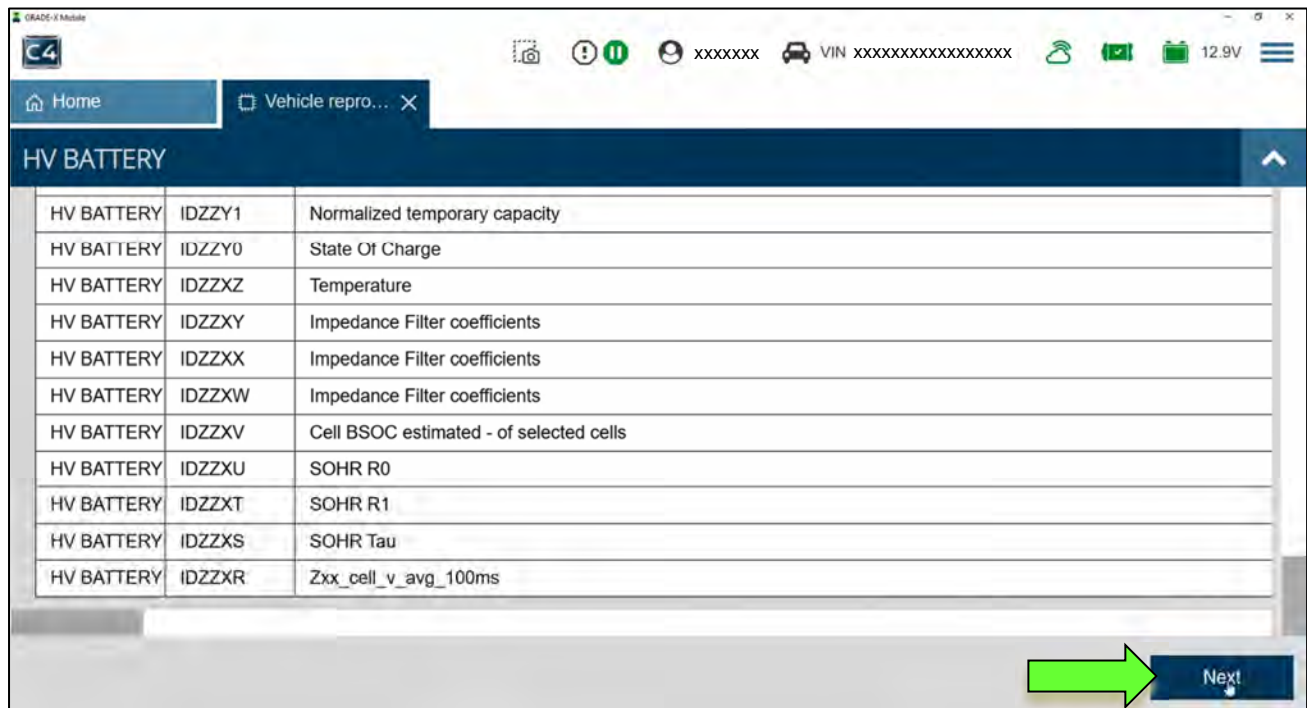

Figure 9
26. When the screen in Figure 9 is displayed, select **Next**.